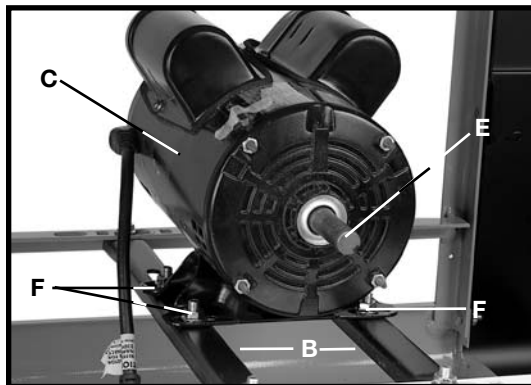
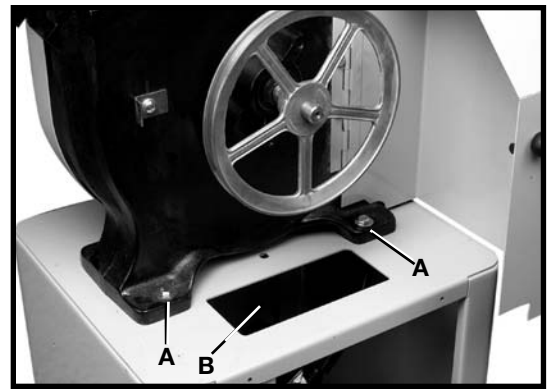

Fig. 6
Fig. 8
1. Turn the stand on its side with the two bars (B) Fig. 6 down.
2. Position the motor (C) Fig. 6 on the two horizontal support bars (B), and fasten with the four 5/16x18 carriage bolts and flange nuts, three of which are shown at (F). **IMPORTANT: PLACE THE MOTOR SHAFT (E) ON THE SAME SIDE OF THE STAND AS THE LARGE OPENING AT THE TOP OF THE STAND (SEE (B) FIG. 8) BEFORE LOOSELY TIGHTENING THE CARRIAGE BOLTS (F).** Further alignment will be necessary after the saw is attached to the stand.
Attach the band saw to the stand by using the four holes provided (two of which are shown at (A) Fig. 8). Place one 5/16-18 x 1-3/4" hex head screw with a 5/16" flat washer through each hole in the bottom of the band saw and the top of the stand. Thread a 5/16" flange nut on screw and tighten securely.